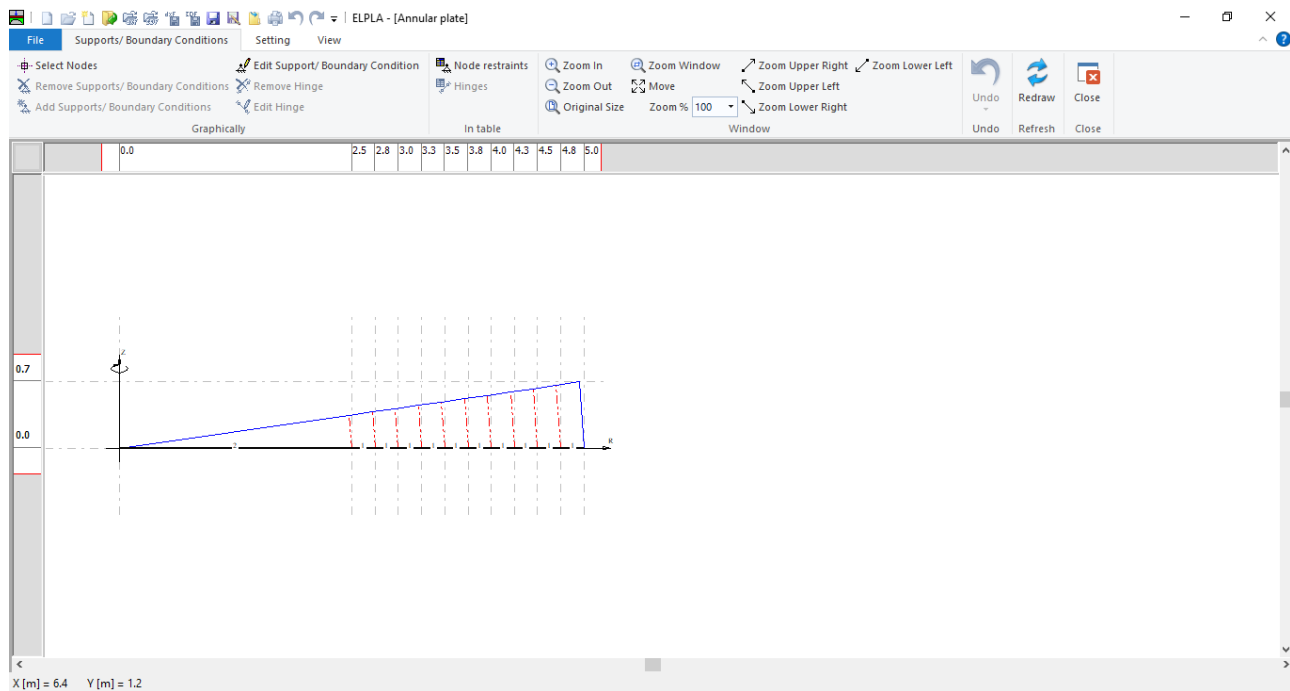
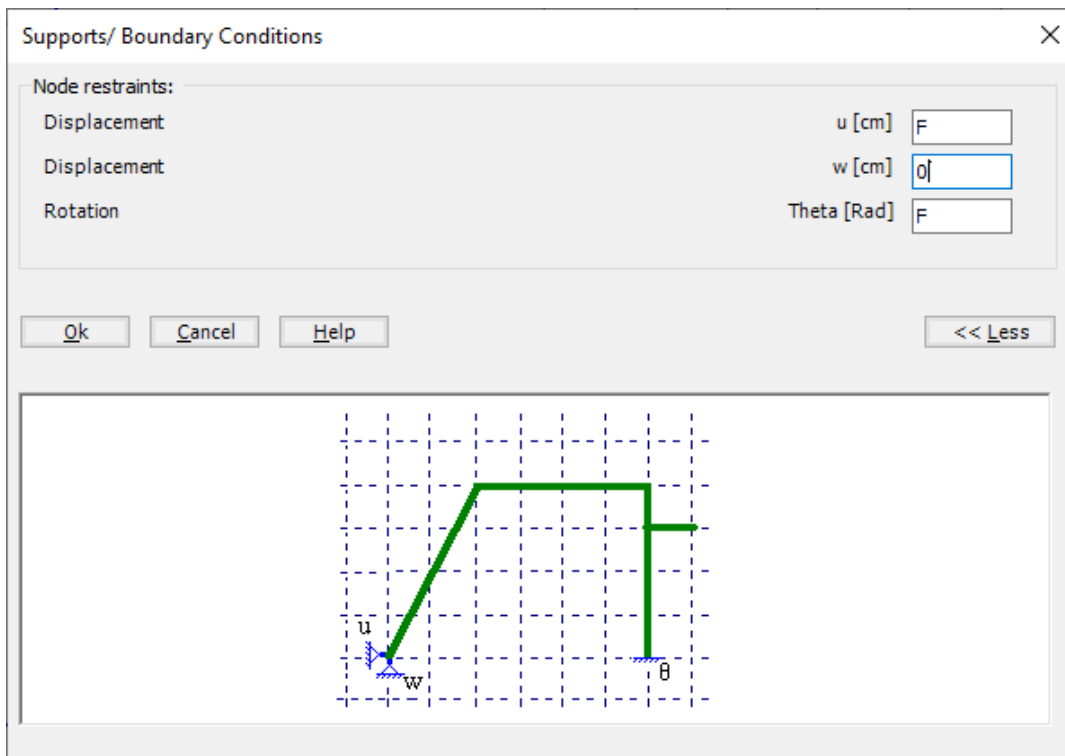

Figure 2.18 "Supports/ Boundary Conditions" Window
Figure 2.20 "Supports/ Boundary Conditions" dialog box
To define supports choose "Supports/ Boundary Conditions" command from "Data" Tab. The following Tab in Figure 2.18 appears.
- Choose "Select Nodes" command from "Graphically" menu in Figure 2.18. When "Select Nodes" command is chosen, the cursor will change from an arrow to a cross hair
- After selecting nodes of supports, choose "Add Supports/ Boundary Conditions" command from "Graphically" menu (Figure 2.18). The "Supports/ Boundary Conditions" dialog box in Figure 2.20 appears